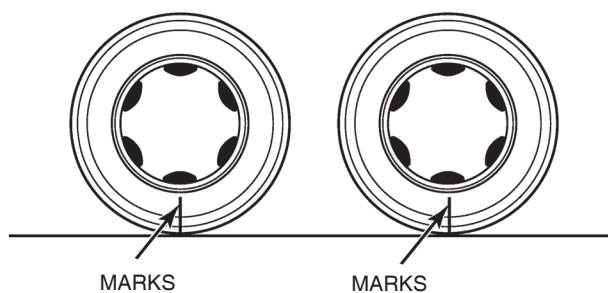

Figure 4.16
5. Mark the forward and rear tires at identical relative positions. Figure 4.16